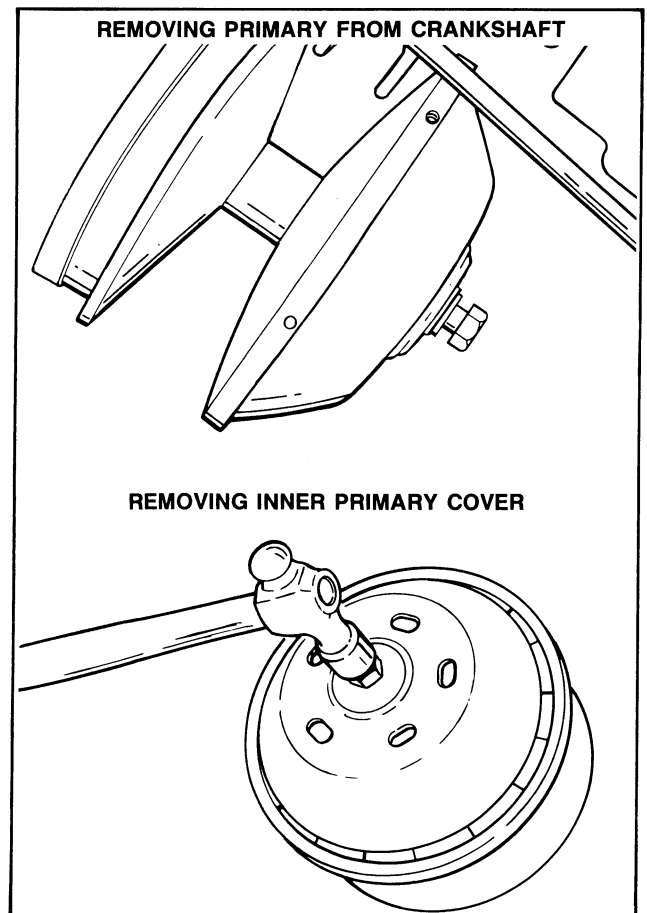

Figure 84 – Removing Primary Drive Floating Flange and Drive Cover
- g. See Figure 84. Remove complete primary assembly (using Tool Kit No. 209422C) by inserting pin and bolt into primary shaft and tighten bolt. As the bolt is tightened, the complete primary assembly will come free of the crankshaft. While supporting the primary in your hand, back bolt out of primary shaft and tap the bolt with a hammer to remove the inner cover.